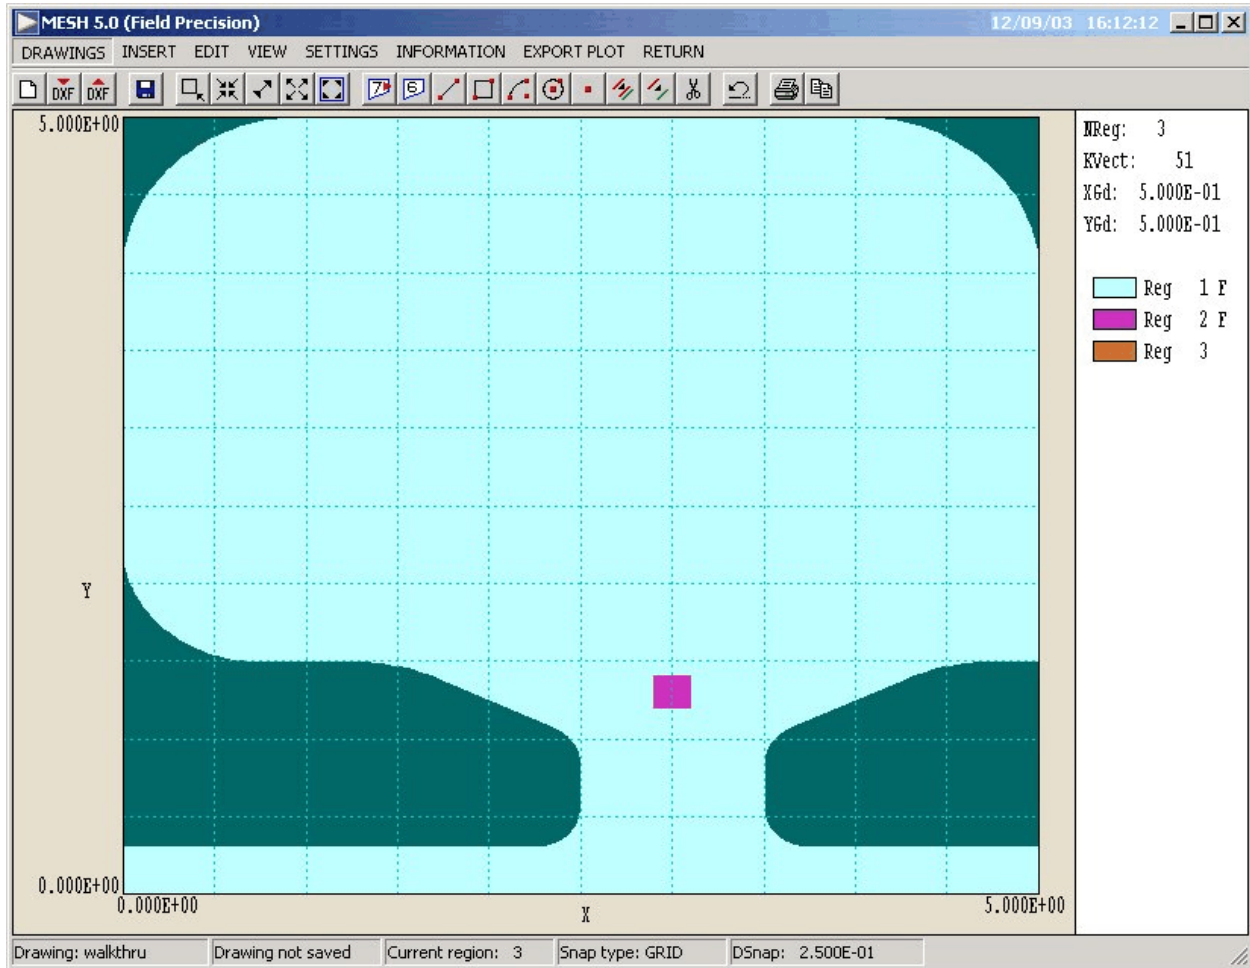

Figure 1. Definition of the cavity geometry for the WALKTHRU example. The cavity has cylindrical symmetry about the lower axis. Dimensions are in cm.
To test the installation and to get acquainted with **WaveSim** procedures, we shall follow through an example in detail. We want to calculate the resonant frequency and quality factor (Q) for the klystron cavity shown in Figure 1. Note that the cavity is a figure of revolution about the abscissa. In the **WaveSim** calculation, the horizontal axis will be associated with z and the vertical axis with r . To begin, move the files `WALKTHRU.DXF`, `WALKTHRU.WIN` and `WALKTHRU.SCR` to a working directory such as `\TRICOMP\BUFFER`. Run **TC** (the **TriComp** program launcher) and check that the program and data directories are set correctly. The standard values are `\TRICOMP` and `\TRICOMP\BUFFER`.
We will first learn how the **Mesh** drawing editor can be used to create an input script that describes the geometry. Don't worry if you make a mistake in the following sequence. You can always use the prepared script WALKTHRU.MIN included with the examples. The file WALKTHRU.DXF is a drawing file that was prepared with QCAD, a freeware 2D CAD program included with **WaveSim**. Advanced features of the program were employed to generate the fillets (arcs) on the cavity boundaries. We added some features such as region names in the **Mesh** drawing editor. Launch **Mesh** and choose the menu command *DRAWING*. The program enters the drawing editor, one of the options for preparing **Mesh** input. Click on *DRAWING/IMPORT DXF* and choose the file WALKTHRU.DXF. Click *OK* again when the program displays a dialog listing information on the drawing. Next, click on *SETTINGS/DISPLAY REGION FILL*. You should see a display like Fig. 1 (we have changed some of the colors for clarity). As loaded, the drawing contains a layout layer and three active regions. Click on *SETTINGS/REGION PROPERTIES* to display the dialog of Fig. 2. The vectors of Region 1 comprise the closed outline of the cavity. The region has the *FILLED* property so the region number is assigned to all enclosed nodes and elements (light blue area in Fig. 1). This region will have the properties of vacuum in the **WaveSim** calculation. Region 2 (a small rectangle) is a drive region required for resonant-cavity calculations. This filled vacuum region will have a RF current density of arbitrary